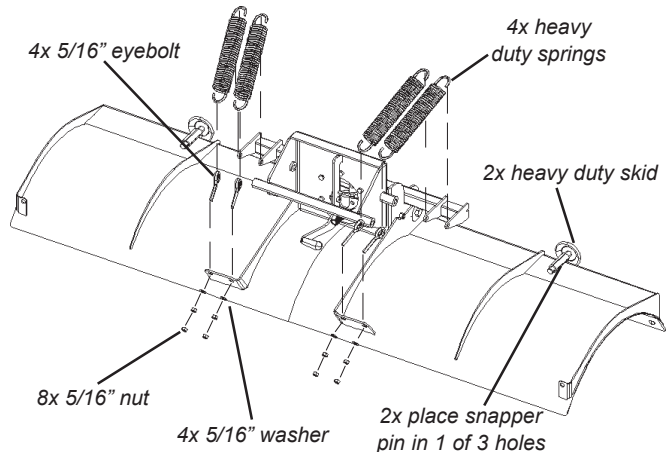

Figure 4 Assemble Plow Springs and Skids
5. Assemble the plow springs as shown in figure 4. Slide a 5/16" dia eyebolt up through the small hole located on the center bent flange on the plow blade. Terminate the eyebolt with a 5/16" dia washer and nut. Hook the heavy-duty plow spring onto the bottoms side flanges of the plow base, and to the eyelet of the eyebolt. Tighten the 5/16" nut until there is tension on the spring (i.e.; it is difficult to remove the spring from the eyebolt). Once the desired tension is determined, terminate the eyebolt with a second 5/16" dia nut and tighten it against the first 5/16" dia nut. If installed correctly, the nuts should not be able to rotate off the end of the eyebolt.